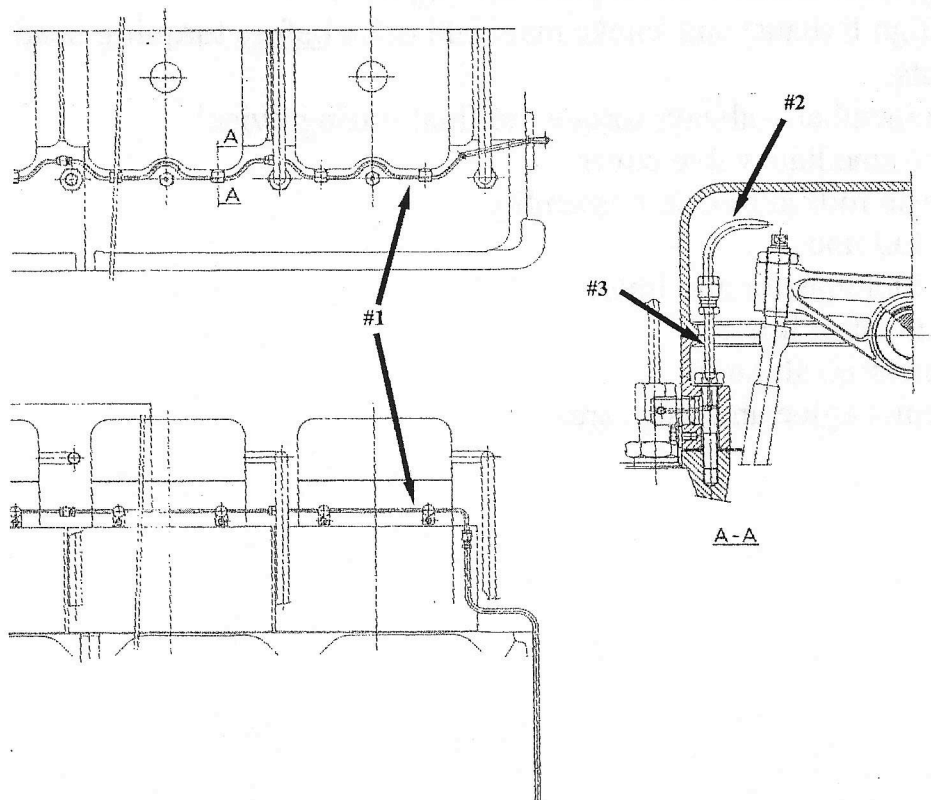

FIGURE 2
3. Remove L.O. jumper lines (#1) using tubing wrenches and rocker shaft lube oil lines (#2). (See *figure 2*).
5. Remove allen socket bolts holding down the intermediate valve cover. Also remove the two Rocker L.O. standpipes (also holding down the intermediate valve cover – see *figure 2* (#3)).